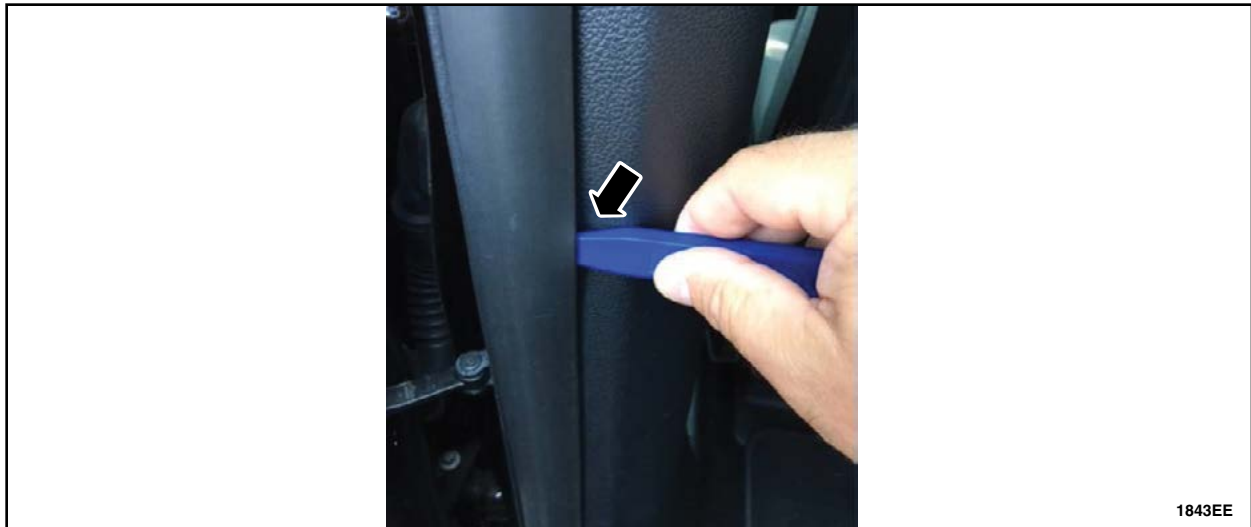

FIGURE 12
13. Use a plastic trim tool to correct any areas where the door weather stripping may be pinched behind the installed B-pillars. See Figure 12.